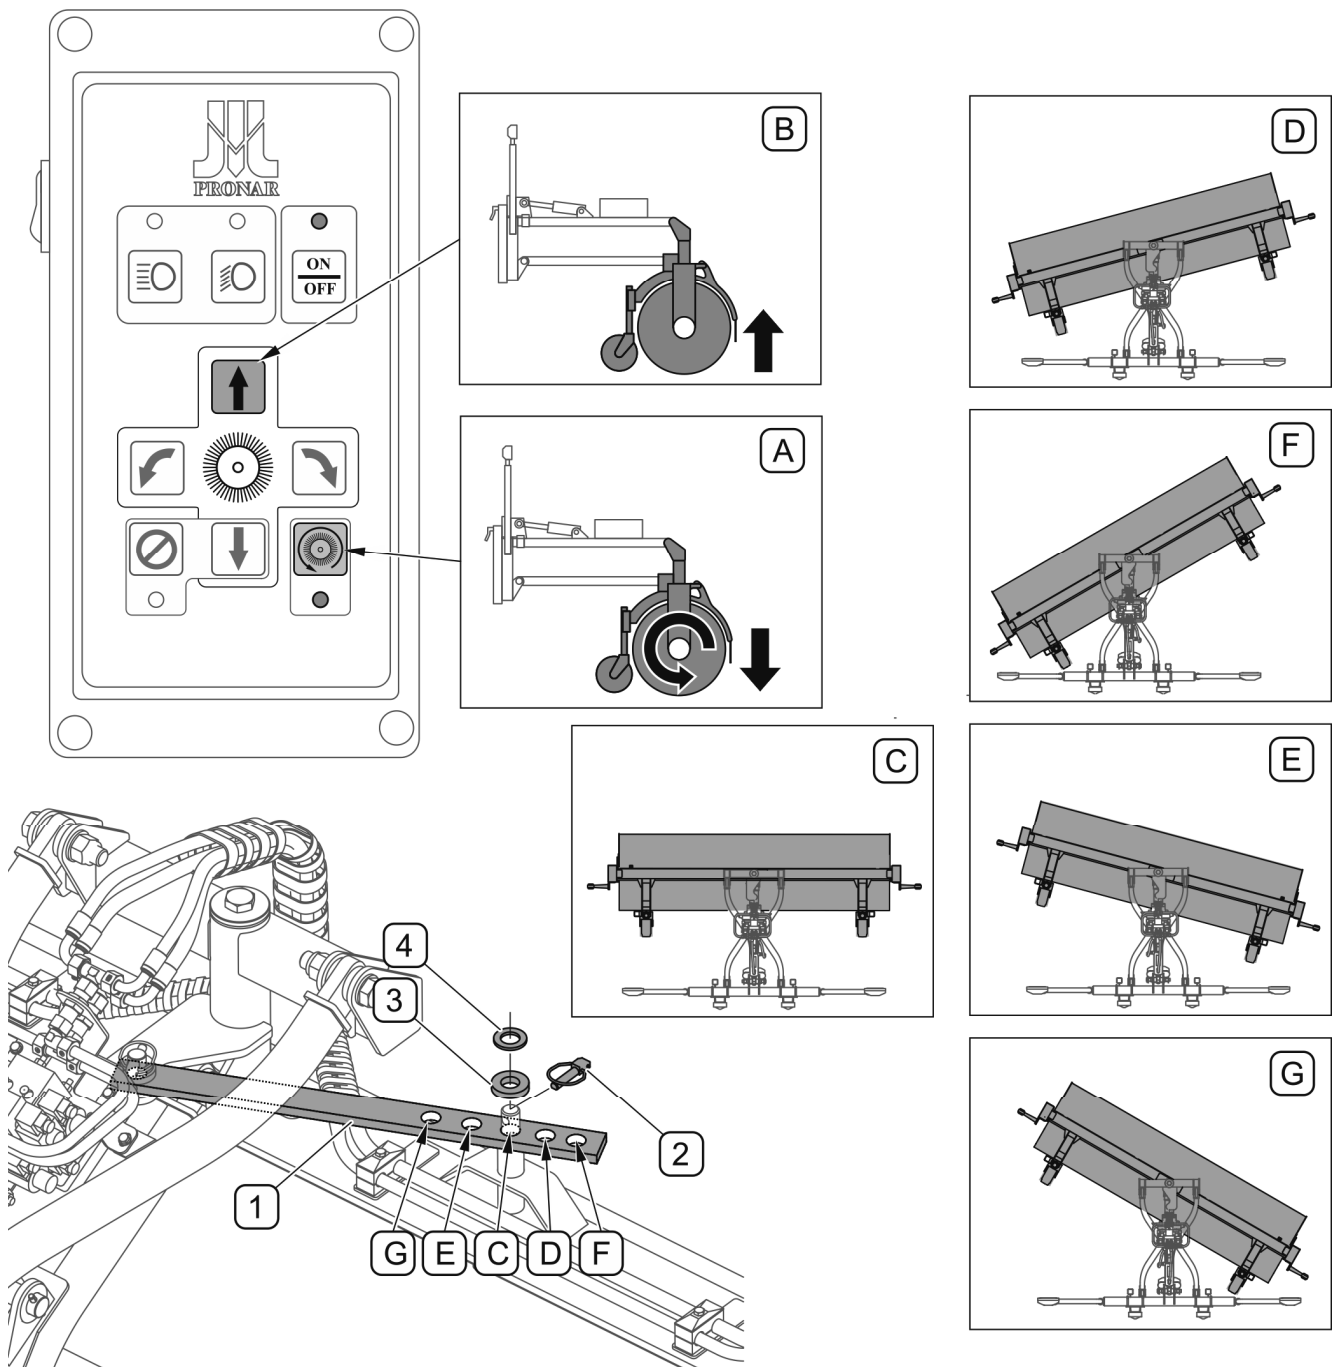

FIG. 4.14 Changing the sweeper's working position (ZM-S25 sweeper with mechanical brush turning)
5 working angles of the brush can be set in the sweeper equipped with mechanical brush turning system (FIG. 4.14).
The brush with mechanical turning system is raised and lowered using the control panel. . The ON / OFF (yellow) indicator light should be on - do not flash. Brush working angle is changed by means of adjusting strip (1) with openings to be secured on the brush frame pin (FIG. 4.14)
To change the brush (FIG. 4.14) working angle: